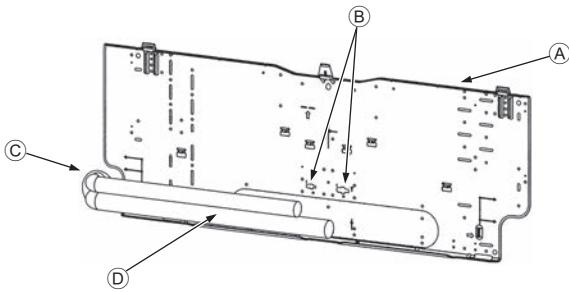

Fig. 3-5
- Ⓓ Fixing screws (4 x 25) ②
- Ⓕ Mount board ①
3.3. When embedding pipes into the wall (Fig. 3-5)
- Ⓐ Mount board ①